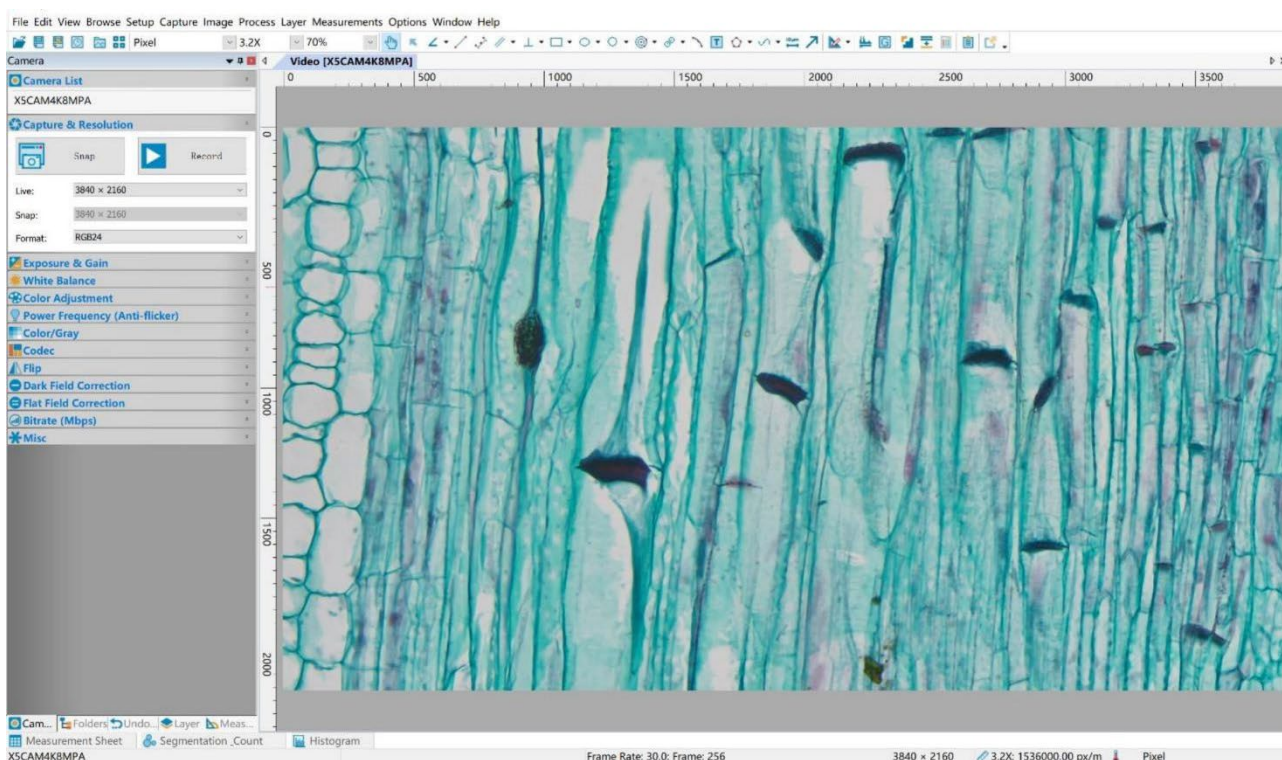

Figure 7 ALTRAVIEW and ALTRA PathoPix 4K Camera in USB Mode
4. Run the software ALTRAVIEW / ALTRAVIEW Lite, clicking the camera name in the Camera List group to start the live video as shown in Figure 7.